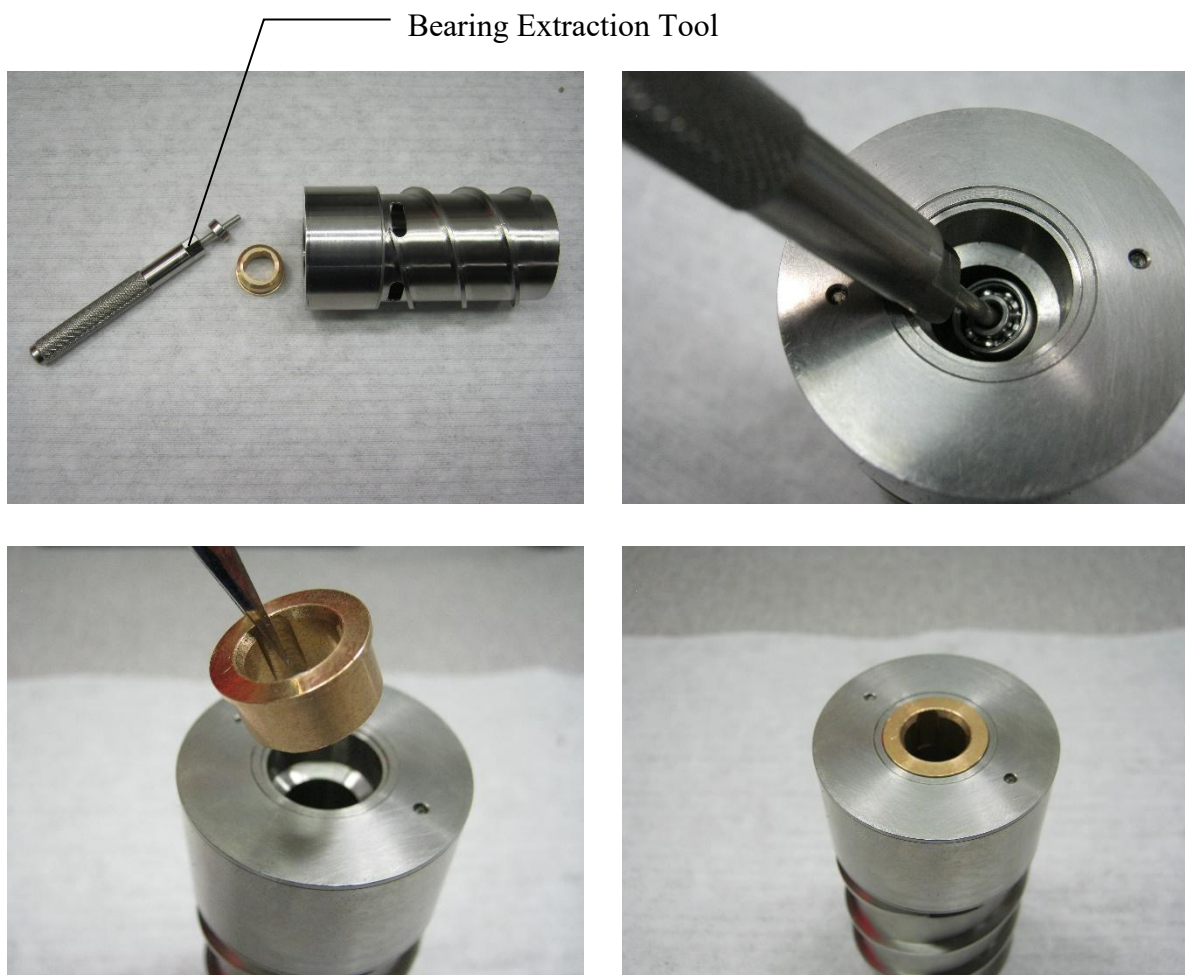

Figure 10 - Rotor Bearing and Outer Race Installation
6. Secure pivot by hand or remove before inverting the sample cup. Unscrew and remove the sample cup, rotating clockwise. *Secure the pivot by hand or remove before inverting the sample cup (see Figure 10).* While supporting the rotor assembly inside the sample cup, empty the sample from the cup into a suitable disposal container.